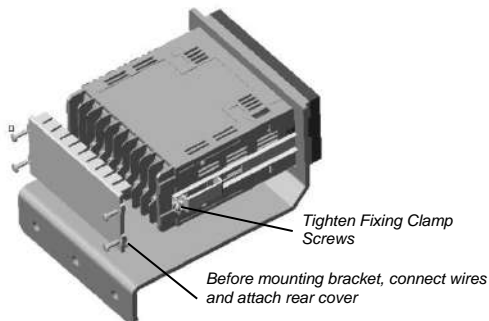

Figure 4: Completing the Installation
2. Insert the Tab on the side of each fixing clamp (one per side) into the hole on the side of the monitor housing and hold them. You might need to loosen the fixing clamp screws first, see Figure 4.